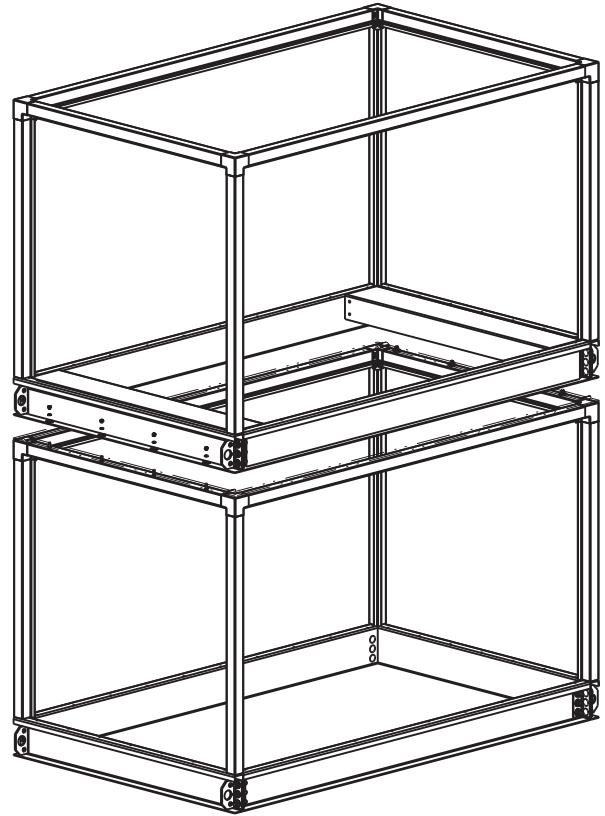

Fig. 49 — Positioning Fan Section on Top of Coil Section
NOTE: Size 21-61 vertical units that exceed the 108-in. maximum height or units with a vertical fan shipping split are shipped with the fan out of its operating position, separate from the vertical coil section. See Fig. 49.
1. Rig the fan section using the lifting brackets and place it on top of the coil section. See Fig. 49.